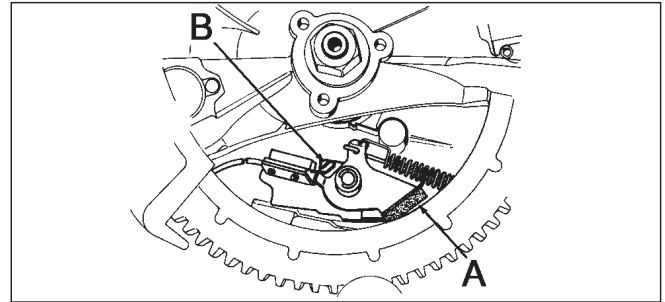

Fig. 1
- TO STOP ENGINE (Fig 1). In the stop position the brake pad (A) is applied to the inside edge of the flywheel; at the same time the ignition system is grounded out (B).